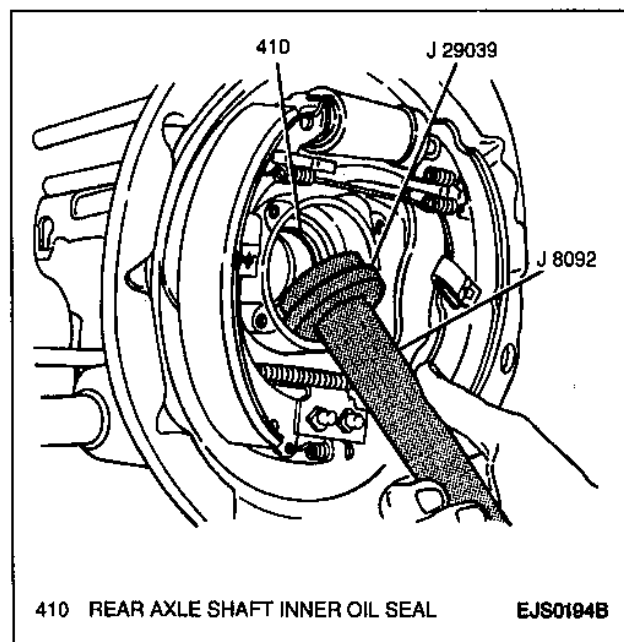

Figure 19—Installing Rear Axle Shaft Inner Oil Seal
1. New rear axle shaft inner oil seal into rear axle housing using a J 29039 and a J 8092 (Figure 19).